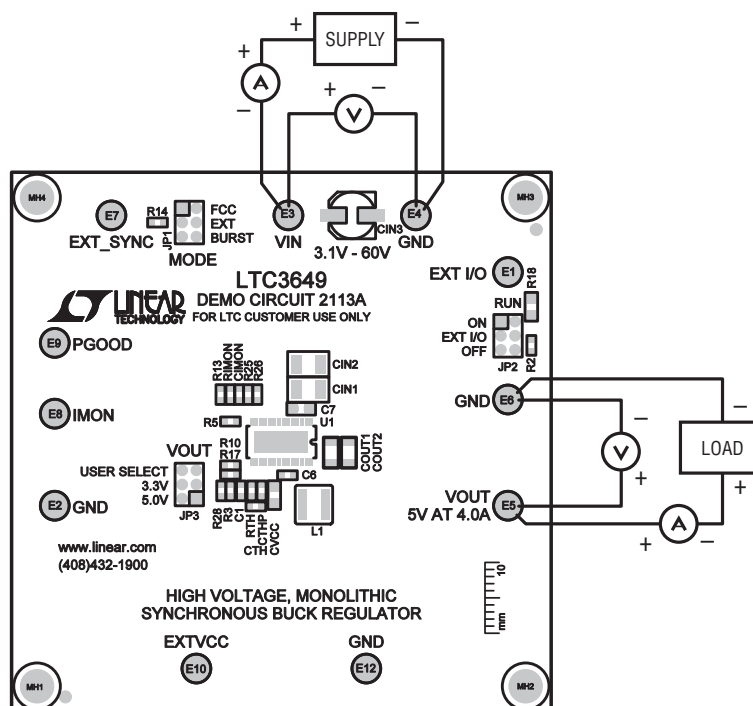

Figure 1. Proper Measurement Equipment Setup
Demonstration circuit 2113A is easy to set up to evaluate the performance of the LTC3649. For proper measurement equipment configuration, set up the circuit according to the diagram in Figure 1. Before proceeding to test, insert shunt into JP2 (RUN) into OFF position, which connects the RUN pin to ground (GND), and thus, shut down the output. Set jumper JP1 (MODE) into FCC (forced counties conduction mode) position. Set jumper JP3 (V_{OUT}) into 5.0V position.
1. With the DC2113A set up according to the proper measurement and equipment in Figure 1, apply 12V at V_{IN}. Measure V_{OUT}; it should read 0V. If desired, one can measure the shutdown supply current at this point. The supply current will be approximately 14μA, or less, in shutdown.